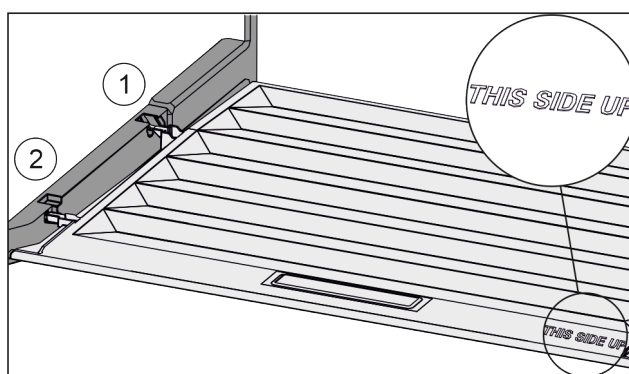

Fig. 132
- Insert the lip of the cover over the opening of the rear bracket Fig. 132 (1) and click into place Fig. 132 (2).